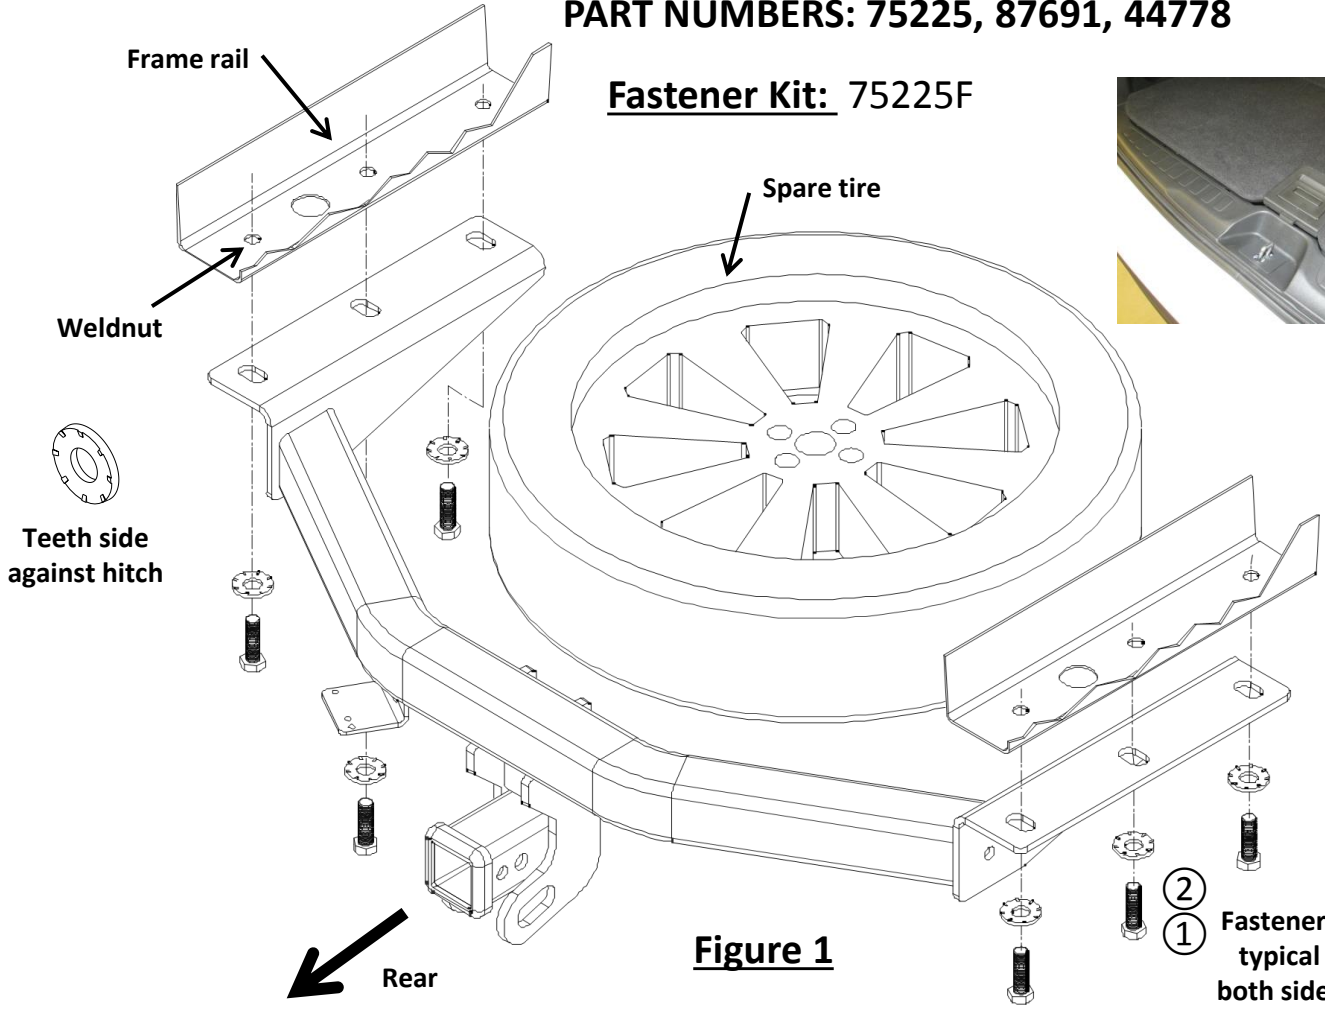

Figure 2
1. Spare tire lower down – open the trunk and use the tools under storage compartment to lower down the spare tire, see Figure 2.
1. Lower spare tire – open the trunk and use the tools under storage compartment to lower the spare tire, see Figure 2.